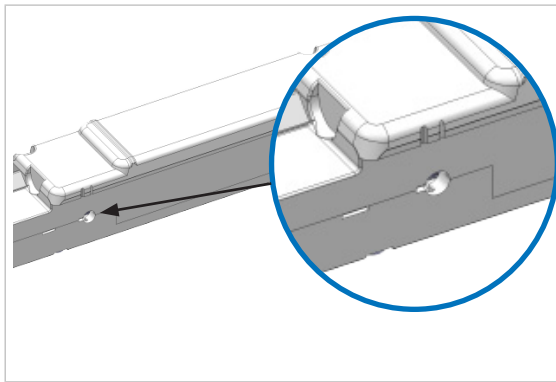

Fig. 14: Opening for screwdriver
In the event of a fault, the cam can be moved manually using a screwdriver (hexalobular internal TX30) (fig. 14).
- a) Make a drilling (D = 8 mm) at the relevant position in the frame profile (fig. 14 and 15),